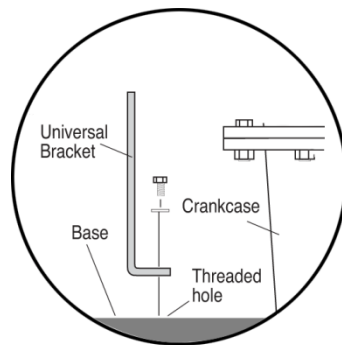

Figure 3A
1. Install the universal bracket to the base as shown in Figure 3A using two split lock washers and two 5/16 inch dia. Bolts or others a necessary.